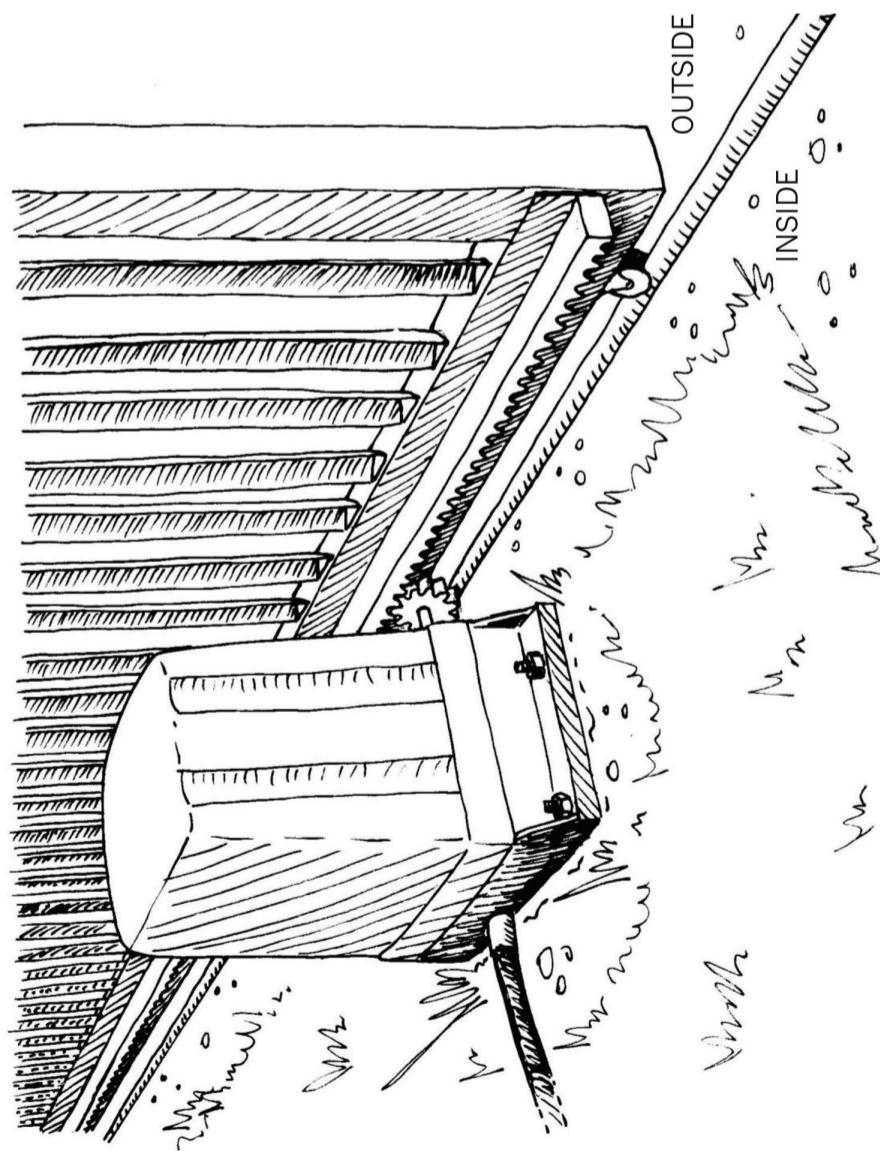

Figure 20: A rack-and-pinion gear in a security gate
In Figure 20, you can see a shell structure that is bolted to the ground on the inside of the gate.
1. What do you think is inside the shell structure in Figure 20, and why is it there?
2. In which direction will the gate move when the gear wheel is turned clockwise (as seen from inside the gate), in Figure 20?